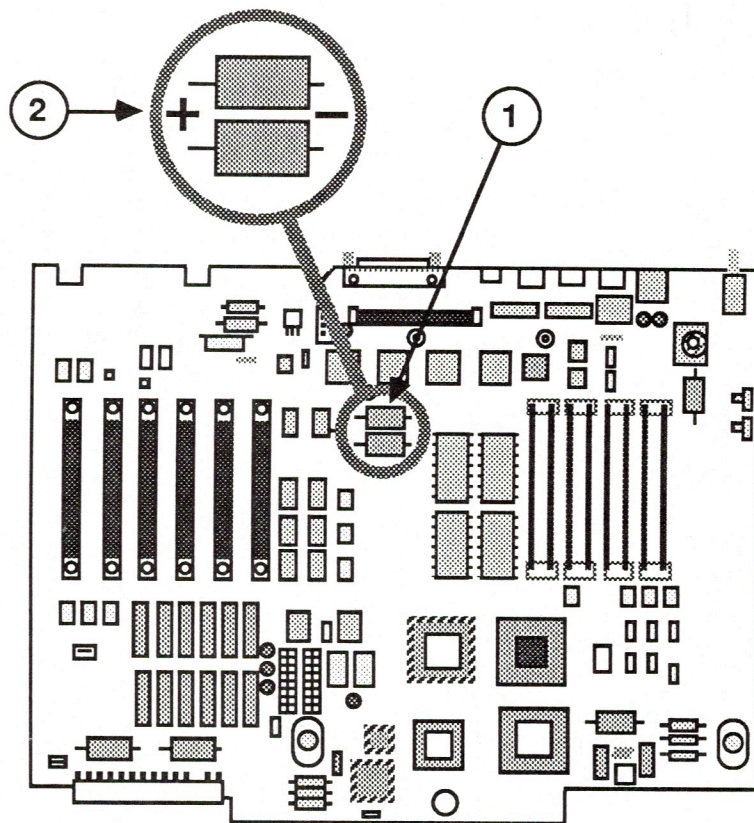

FIGURE 6
2. Locate the two batteries on the front of the logic board (see Figure 6, #1).
CAUTION: *Be sure the positive side of the battery is in the correct location (see Figure 6, #2). Failure to do so can result in damage to the logic board.*